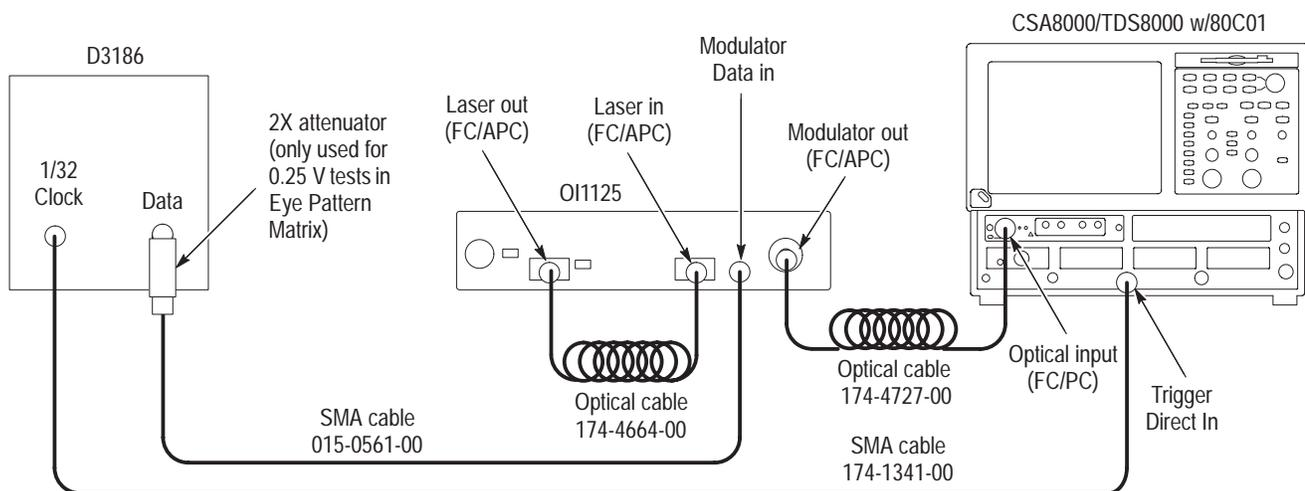

Figure 14: Setup for the RMS Jitter test
1. Set up the equipment as shown in Figure 14.
1. Connect the equipment as shown in Figure 14. A torque wrench is recommended for securing the SMA connections to 7 to 10 lb-in (79 to 112 N-cm).
1. Keep the equipment setup as shown in Figure 14 on page 36.